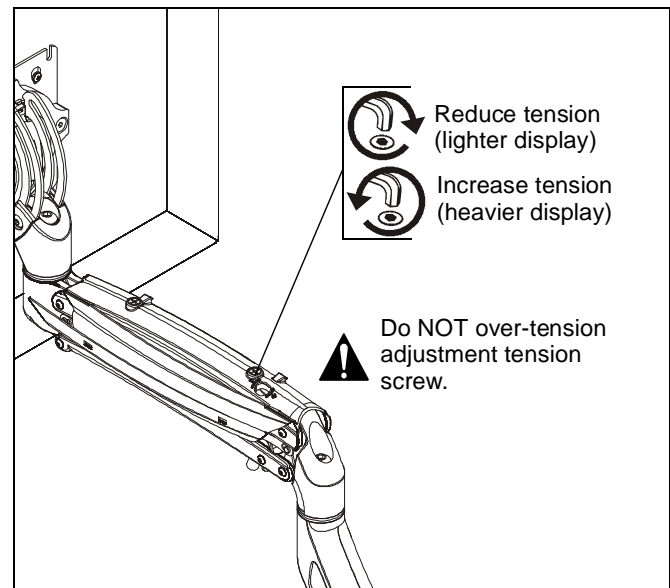

Figure 16
1. Tension may also be adjusted with upper tension adjustment screw inside cable management cover and 1/8" hex key (N). (See Figure 16)